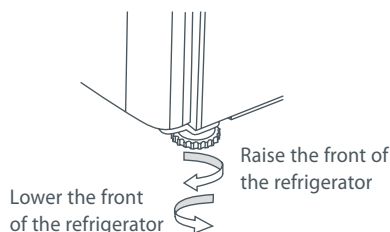

Fig.2 Refrigerator feet
- C Adjust the front feet down until the refrigerator is leaning backward with the front approximately $\frac{3}{8}$ " (10 mm) higher than the back. This will ensure a good door closing action (refer to Fig.2).